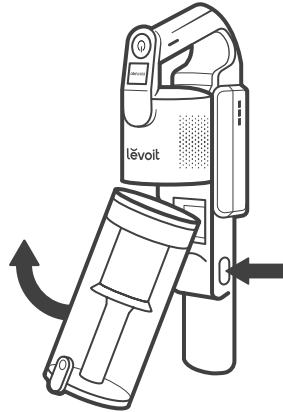

Figure 3.1
2. Press the Dust Bin Release Button and pull the dust bin to remove it. **[Figure 3.1]** Empty out any remaining dust and debris, and remove any hair tangled around the metal filter.